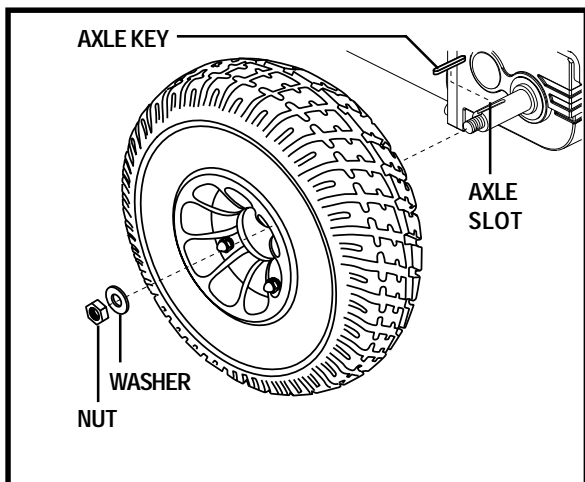

Figure 27. Jazzy 1103 Ultra Drive Wheel
4. Remove the drive wheel nut and washer from the axle. See figure 27.